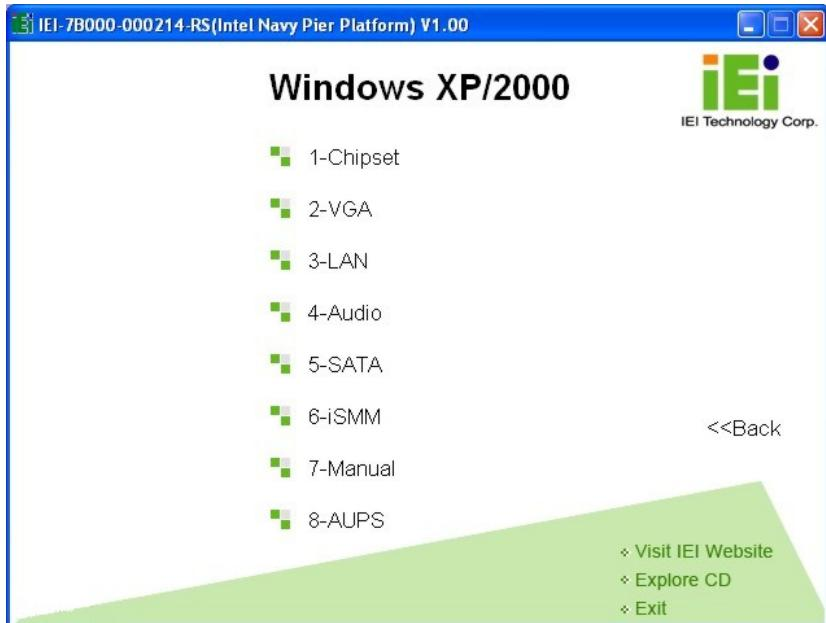

Figure 6-3: Drivers
Step 6: The list of drivers in **Figure 6-3** appears.
Step 1: Access the driver list shown in **Figure 6-3**. (See **Section 6.2**)